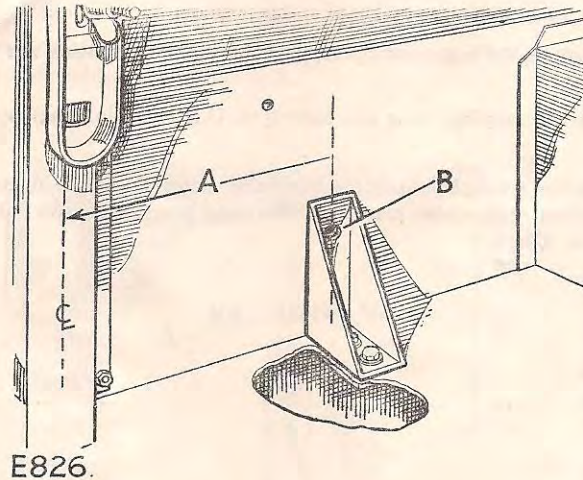

Fig. 5. Bulkhead gusset in position. R.H. illustrated.
5. Mark off a centre line of vehicle on body floor, adjacent to seat bulkhead—then mark a position $10\frac{1}{4}$ in. (260 mm) from the centre line toward body side, as shown in Fig. 5.